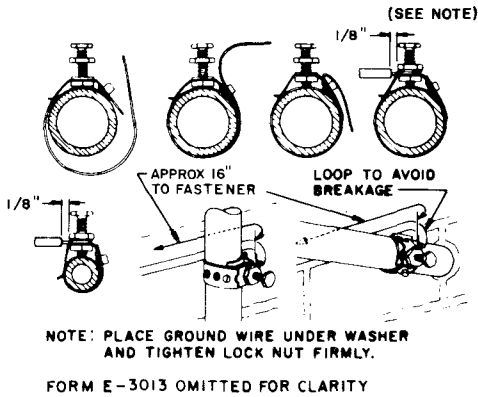

Fig. 41—Installing B Station Ground Clamp
- (7) Place ground wire under the washer and tighten locknut (Fig. 41).